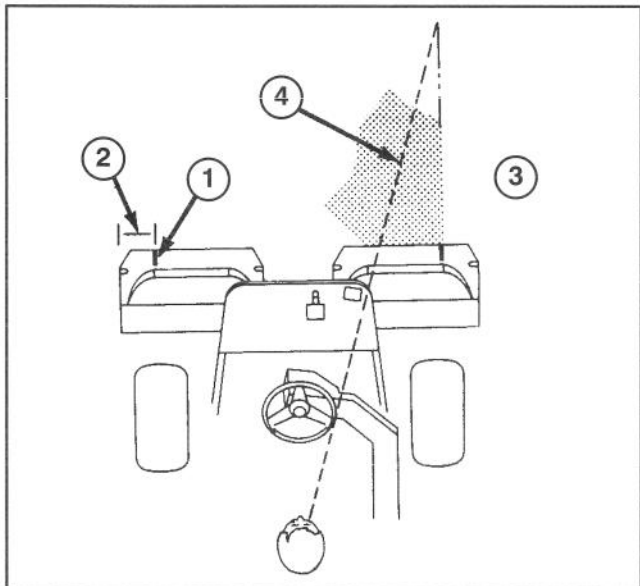

Figure 19
2. Either place a strip of white tape or paint a line onto each basket paralleling the outer edge of each basket (Fig. 19)